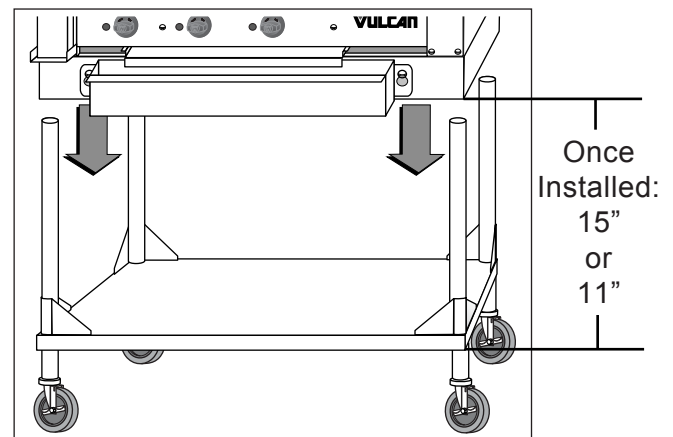

Figure 4
2. Lower Broiler onto the four (4) legs of the stand, supporting from under the body bottom (Fig. 4).